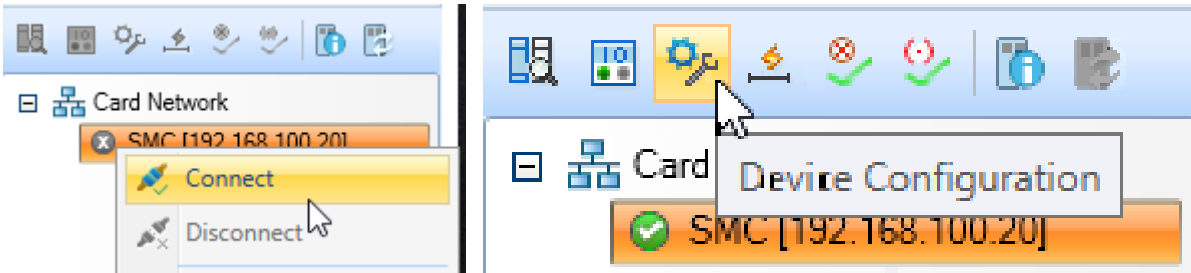

Figure 4- SMC connection via ScanMaster Designer
2. Connect to the SMC and then open the device configuration editor as shown in Figure 4 SMC connection via ScanMaster Designer